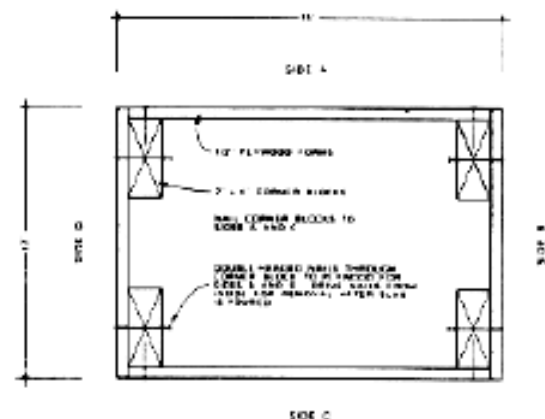

Figure 29. Construction of removable forms for the sump
Step 3. Construct and install the form for the sump, as indicated in Figure 29. The sump form must be constructed in a manner that allows its removal after the concrete has set up. The top of the sump form should be set 1/2" lower than the top edge of the floor slab edge forms. The floor slab, when poured and screeded, then will have a positive sloop for drainage into the pit.